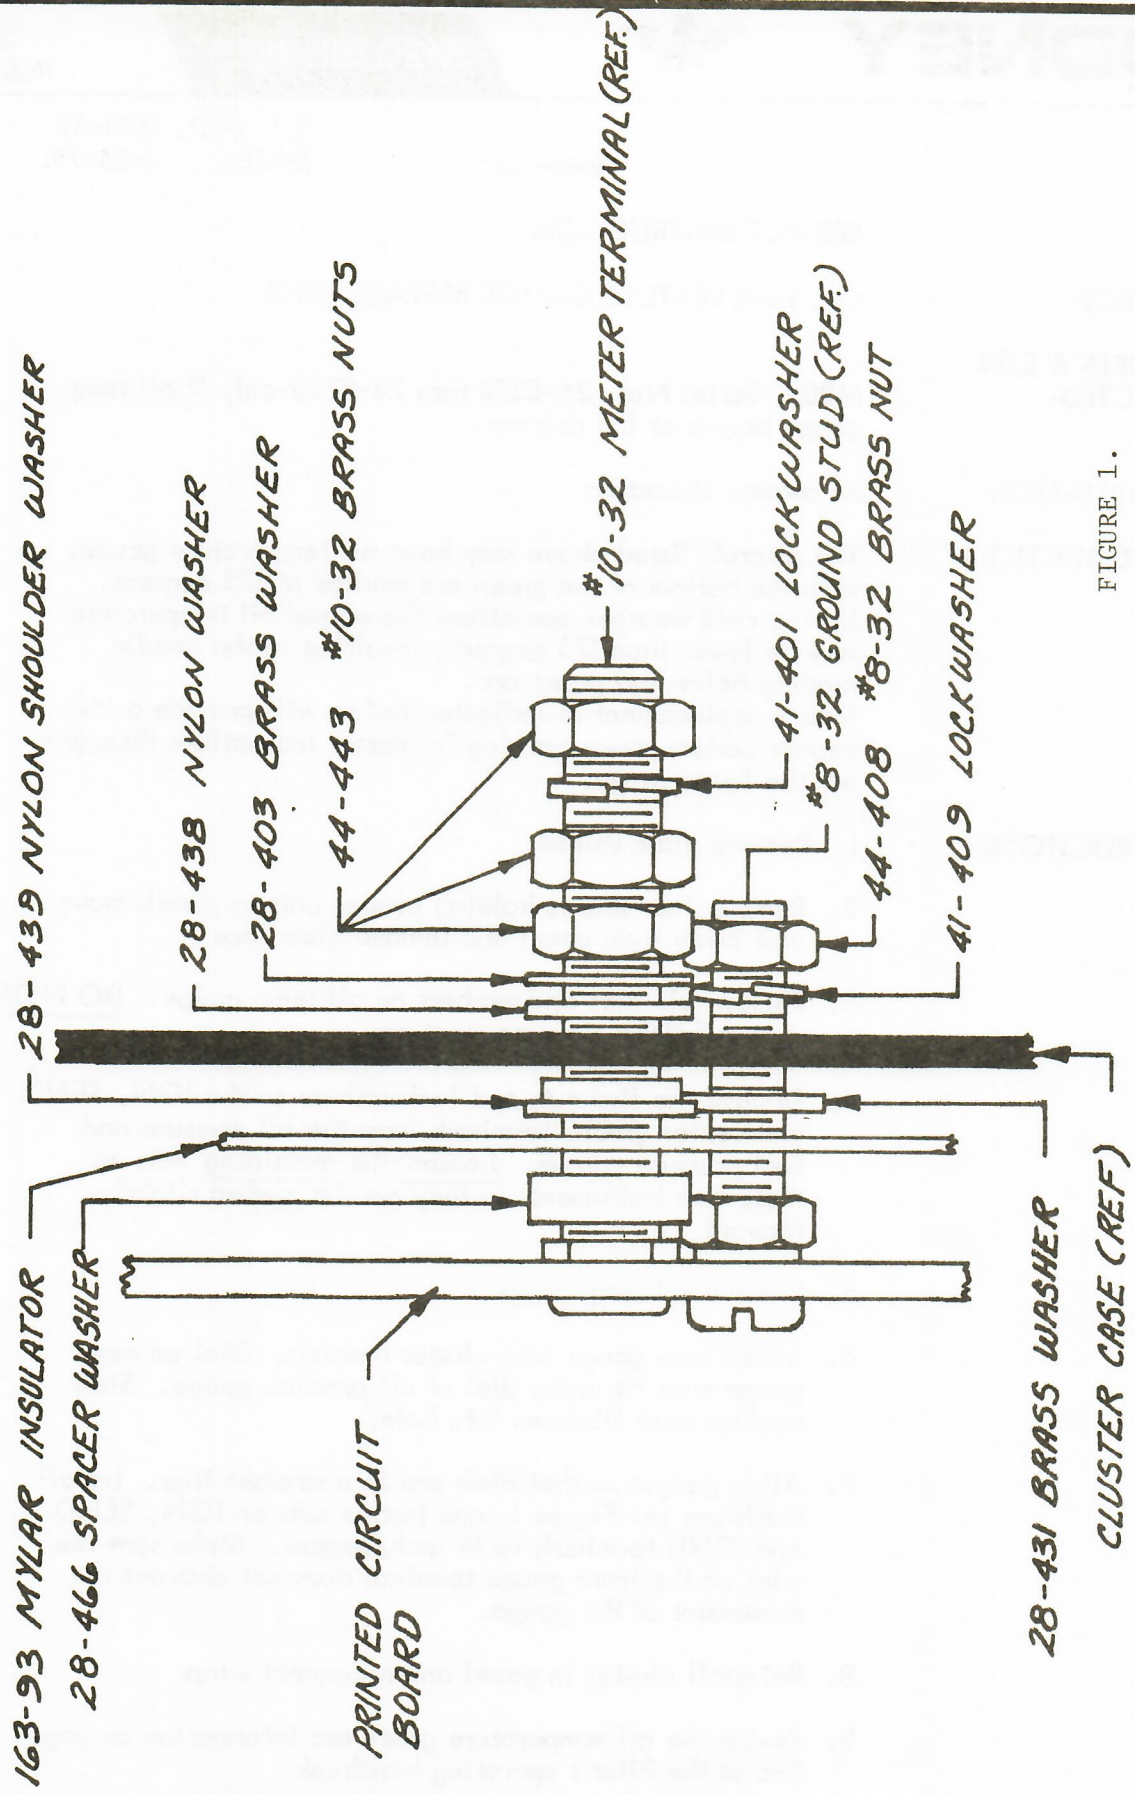

FIGURE 1.
7. Align gauges so that dials are in a straight line. Install hardware per Figure 1. and torque nuts on IGN, SEND and GND terminals to 14 inch/ounces. Make sure the wire on the front gauge terminal does not obstruct the movement of the gauge.